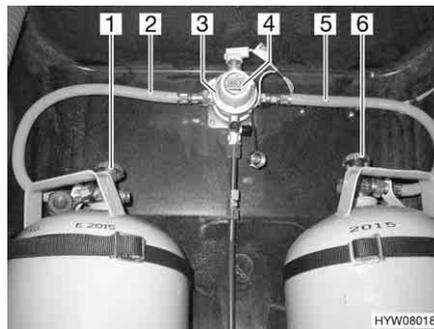
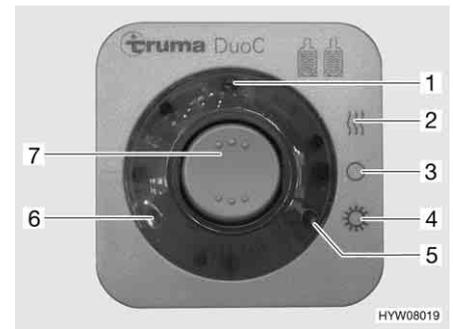

Fig. 101 DuoControl switching facility
Fig. 102 Operating unit
The DuoControl switching facility consists of a reversing valve (Fig. 101,3) and an operating unit (Fig. 102). The reversing valve is installed between the gas tubes (Fig. 101,2 and 5). The knob (Fig. 101,4) on the reversing valve is used to select which of the gas bottles is to be used as a primary bottle and which is to be used as a reserve bottle.
Only the electrical functions can be switched at the operating unit (Fig. 102). The regulator taps on the gas bottles (Fig. 101,1 and 6) must be opened manually.
The reversing valve provides a constant gas pressure, regardless of which gas bottle is being drawn upon. The two indicator lamps on the operating unit indicate the level of the primary bottle. When the green indicator lamp (Fig. 102,6) illuminates, the primary bottle is full. When the red indicator lamp (Fig. 102,5) illuminates, the primary bottle is empty. In this case, the reserve bottle is used for the gas supply.
- Open the regulator taps on the gas bottles (Fig. 101,1 and 6).
- Use the knob (Fig. 101,4) on the reversing valve (Fig. 101,3) to select the gas bottle which is to be the primary source of gas (primary bottle). Always turn the knob as far as it will go.
- Switch on the DuoControl switching facility at the operating unit (Fig. 102). To do so, set the rocker switch (Fig. 102,7) to winter operation "On and heating" (Fig. 102,2) or to summer operation "On" (Fig. 102,4). The reversing valve is now deaerated. The yellow indicator lamp (Fig. 102,1) illuminates if the winter operation has been selected and the regulator defroster is activated.
- Set the rocker switch (Fig. 102,7) to "O" (Fig. 102,3). The yellow indicator lamp (Fig. 102,1) goes out.
- Close the regulator taps on the gas bottles (Fig. 101,1 and 6).
The indicator lamps on the operating unit (Fig. 102,5 and 6) indicate in the vehicle interior whether the primary bottle is ready for operation.
If the green indicator lamp (Fig. 102,6) stops illuminating during operation and the red indicator lamp (Fig. 102,5) illuminates, the gas bottle selected as primary bottle is empty and needs to be changed. The reserve bottle continues supplying the gas appliances with gas.